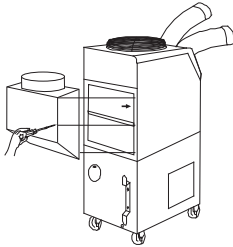

Figure 14
3. Use screws (enclosed inside of box with air adapter) to install the adapter on the air conditioner as shown in Figure 14.